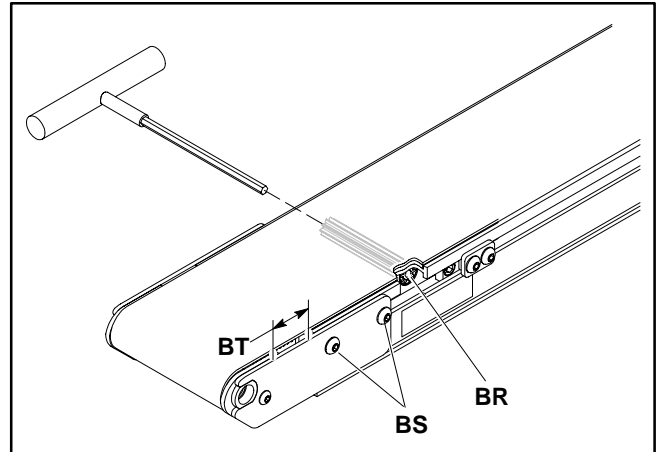

Figure 30
9. Insert a 5 mm hex key wrench into either end of the pinion gear (BR of Figure 30). Rotate the pinion gear to extend the tensioning end gap (BU) to 30 mm.